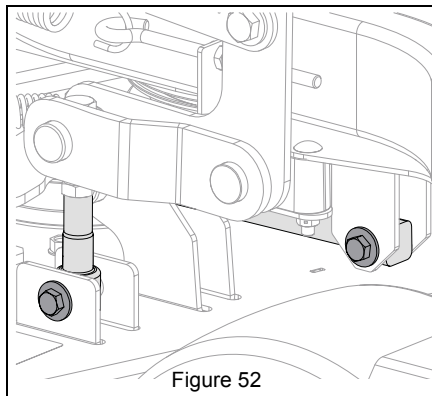

Figure 52
1. Position deck under unit. See Figure 52.